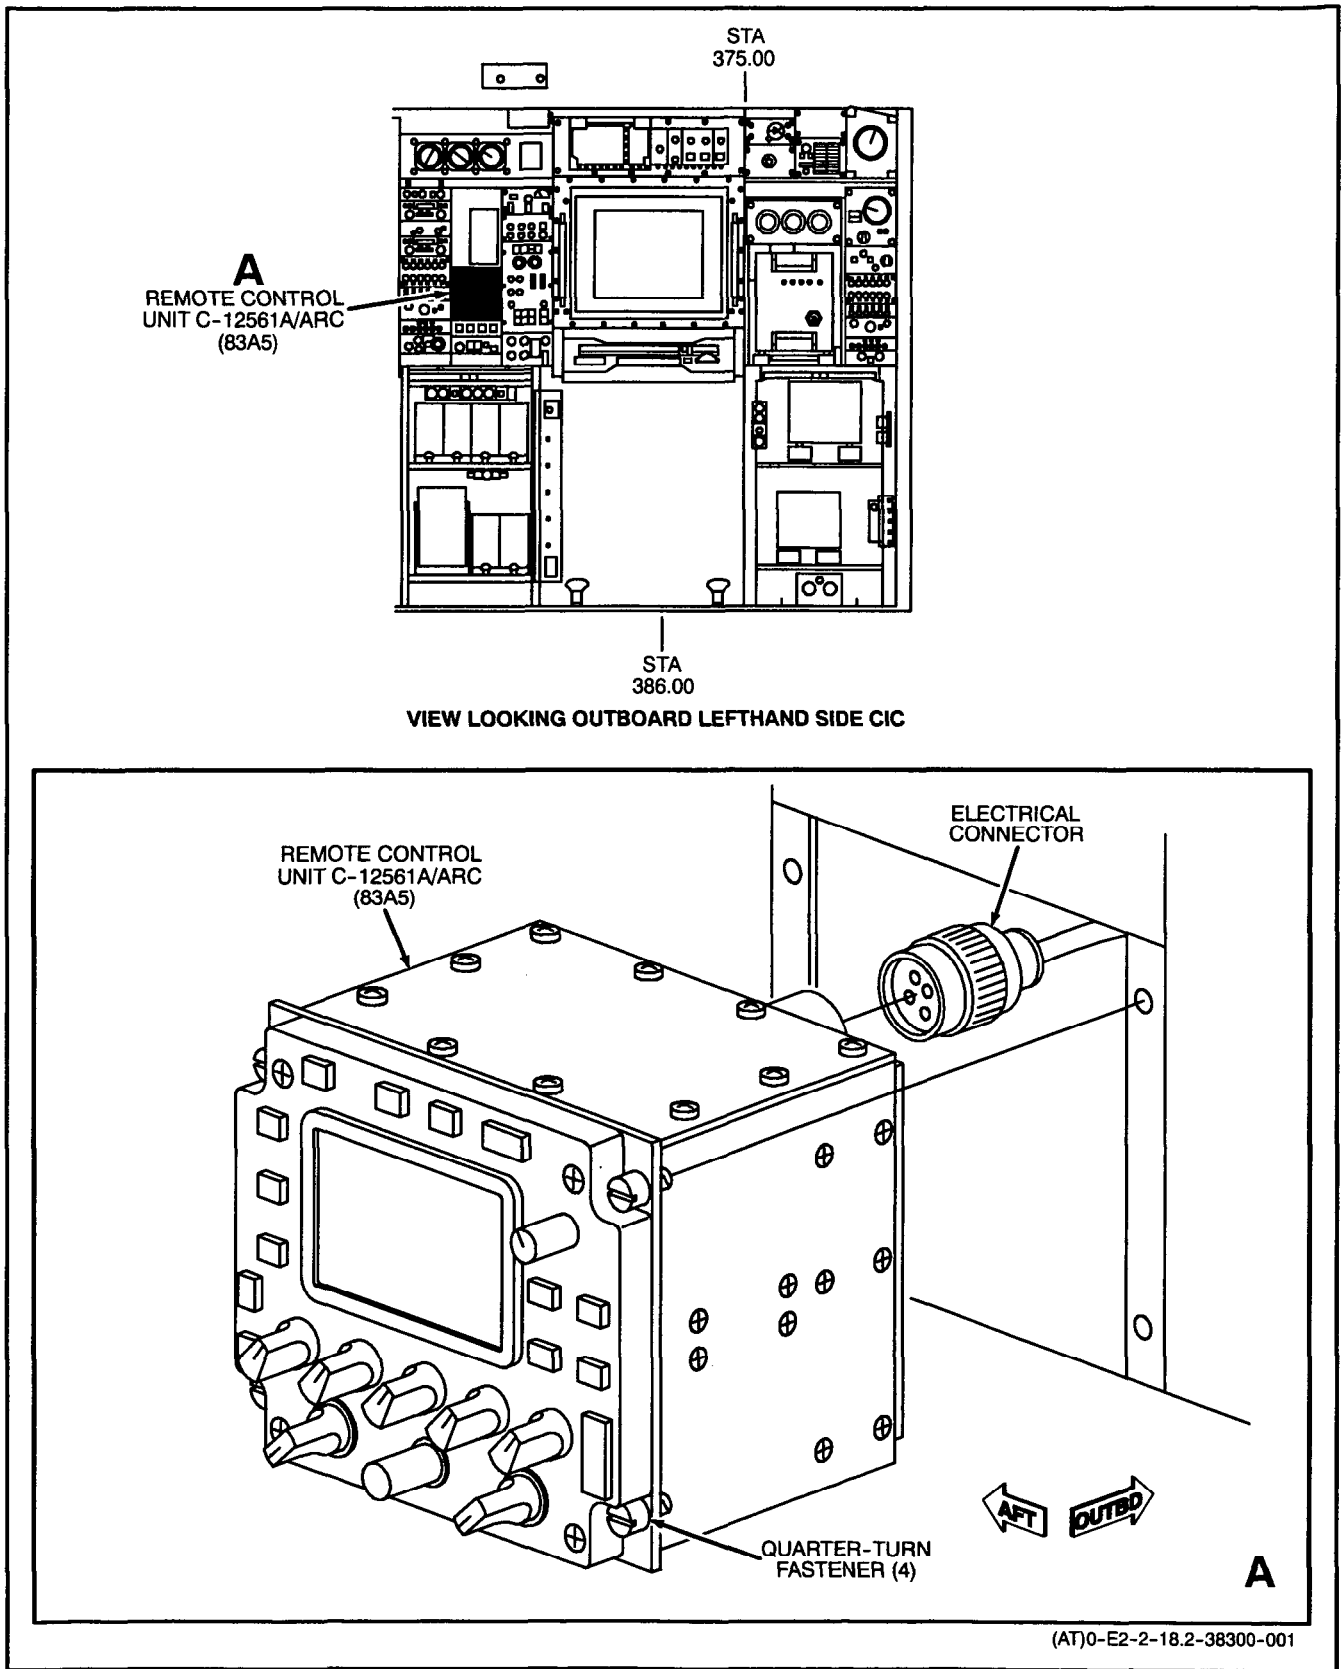

Figure 1. Removal and Installation of Remote Control Unit C-12561A/ARC (83A5)
**1. REMOVAL.** (Figure 1.)
**2. INSTALLATION.** (Figure 1.)
c. Remove caps and connect electrical connector to RCU. (QA)
e. Inspect area for proper installation of all components evidence of corrosion, foreign objects, and any other nonflightworthy condition. (QA)
f. Perform operational check of Satellite Communications (SATCOM) System (NAVAIR 01-E2AAA-2-17.1.1, WP021 03). (QA)